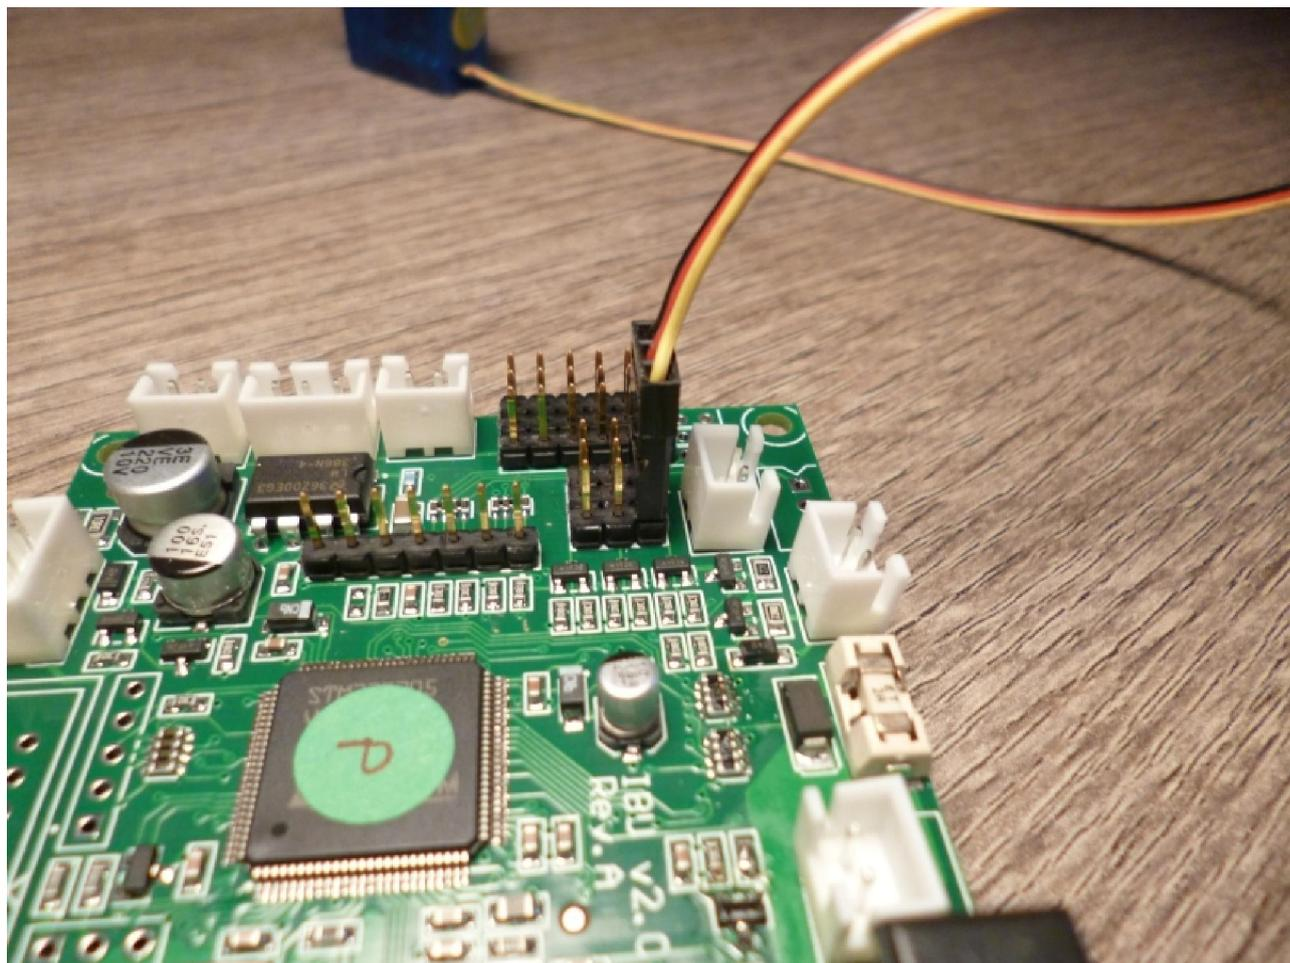

Fig. 4c – Barrel servo plug connected
- Fig. 4c **Barrel servo plug connection**